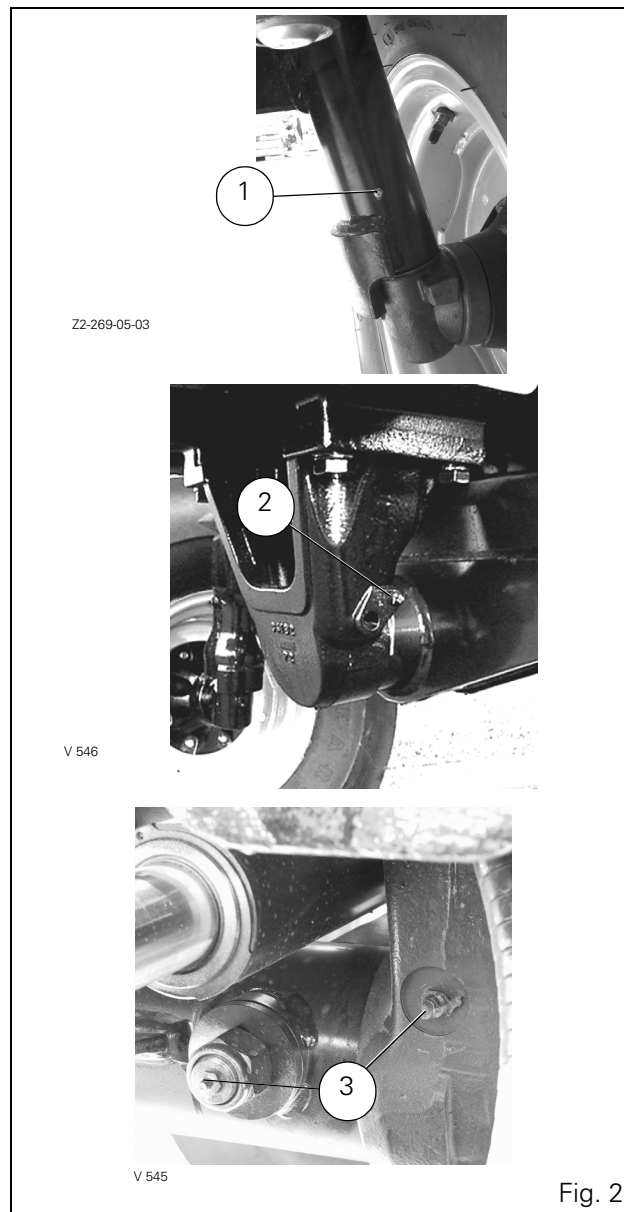

Fig. 2
2. Front axle pivots (2WD) (Fig. 2)